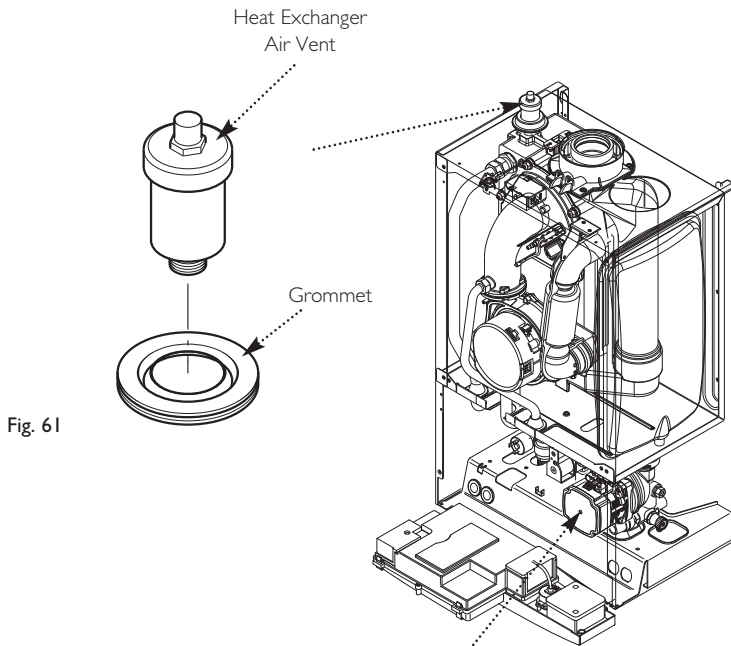

Fig. 61
13.11 Heat Exchanger Automatic Air Vent (Fig. 61)